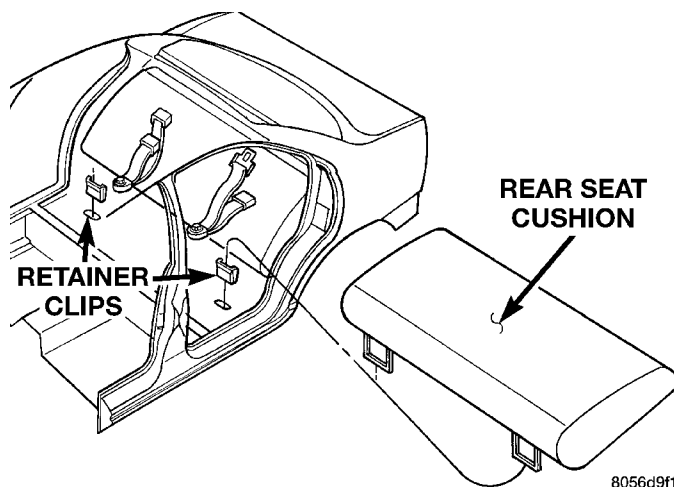

Fig. 2 Rear Seat Cushion
- (1) Pull upward at each end of the rear seat cushion to disengage retainer loops from cups in floor.
- (2) Separate rear seat cushion from vehicle (Fig. 2).